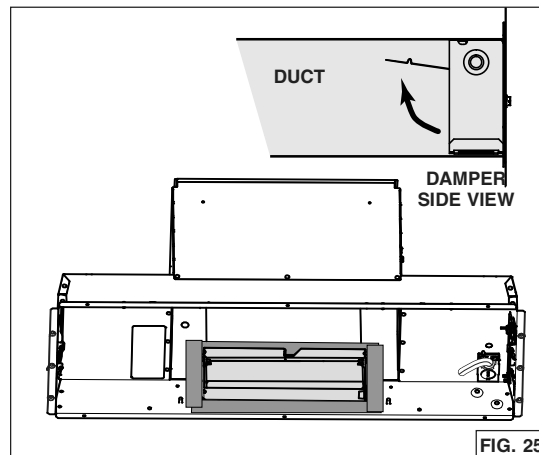

FIG. 25
- From inside the unit, slide the 3¼" x 10" adapter/damper in the horizontal duct, then attach it to the unit using aluminum duct tape all around the joint (FIG. 25). Ensure the damper opens as shown in damper side view.